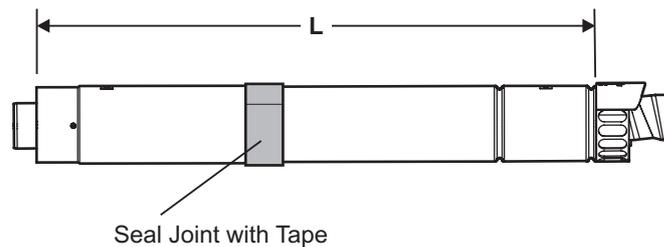

Fig. 4.7
- Determine the overall length (L) of flue required, (see Fig. 4.7) as follows:-
- Rear flue L = wall thickness (B) + 60 mm (105 mm if the wall jig is used)
- Side flue L = wall thickness (B) + distance between boiler and wall (C) + 145 mm